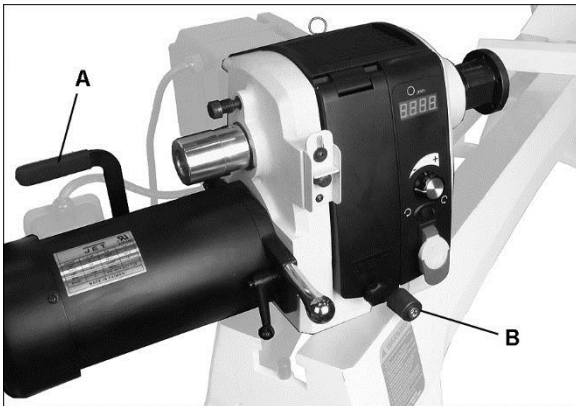

Fig 36
Unscrew the index plunger (B, Fig 36) counter clockwise. Loosen the headstock lock handle (A) and pull the index plunger (B) to turn the headstock.